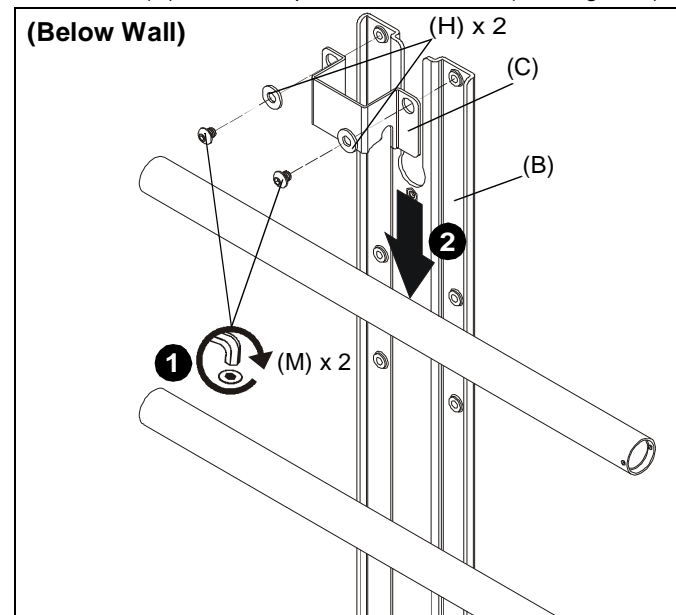

Figure 4
1. Use two 1/4-20 x 1/4" button head cap screws (M) and two large washers (H) to secure shelf bracket (C) to main bracket (B). (See Figure 4)
2. Slide main bracket (B) behind wall mount rails until shelf bracket (C) rests on top of wall mount rail. (See Figure 4)